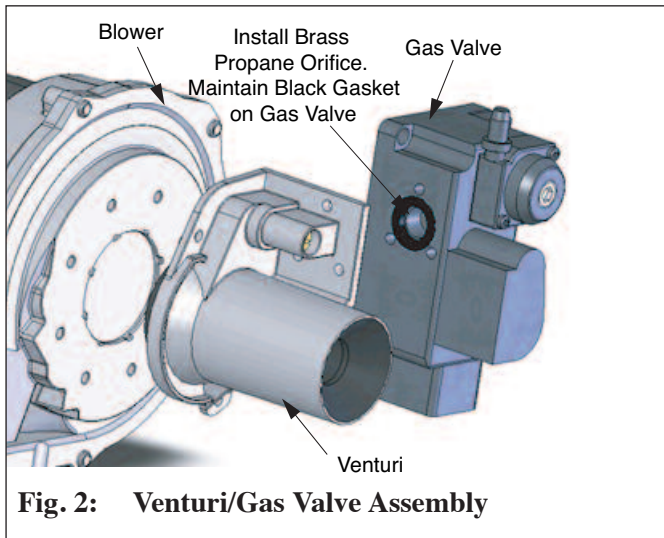

Fig. 2: Venturi/Gas Valve Assembly
11. Install the appropriate brass propane orifice from Table 1 in the gasket between the gas valve and the venturi. The black rubber gasket must remain attached to the gas valve. See Fig. 2 page 3.